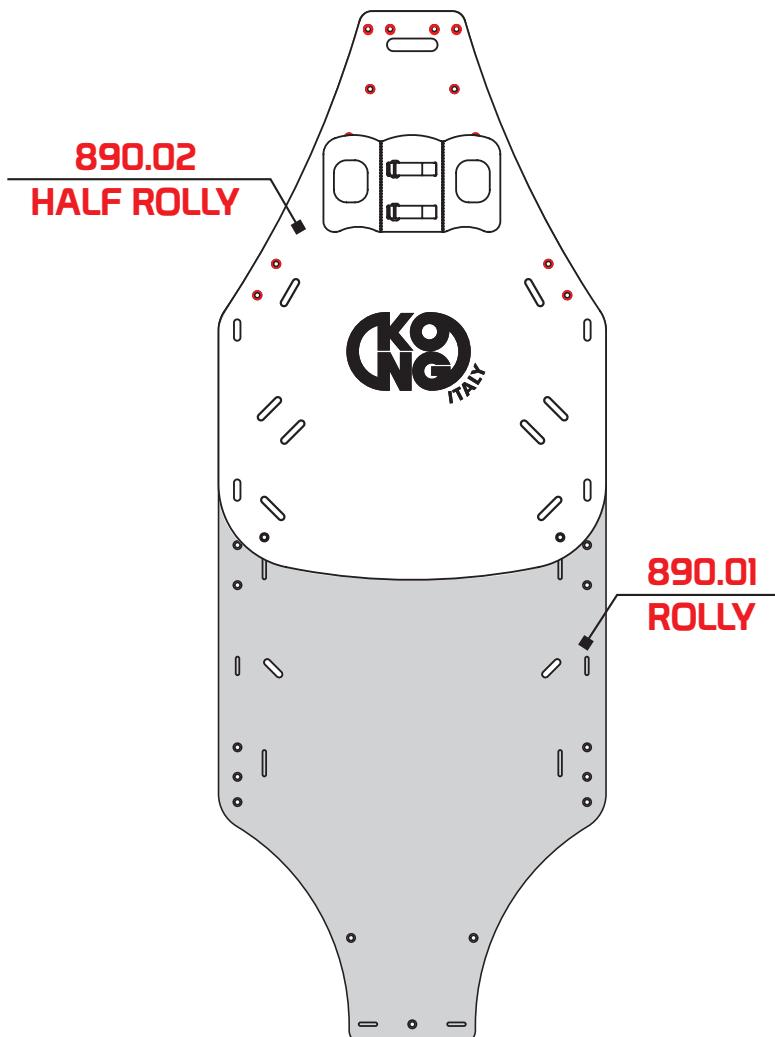
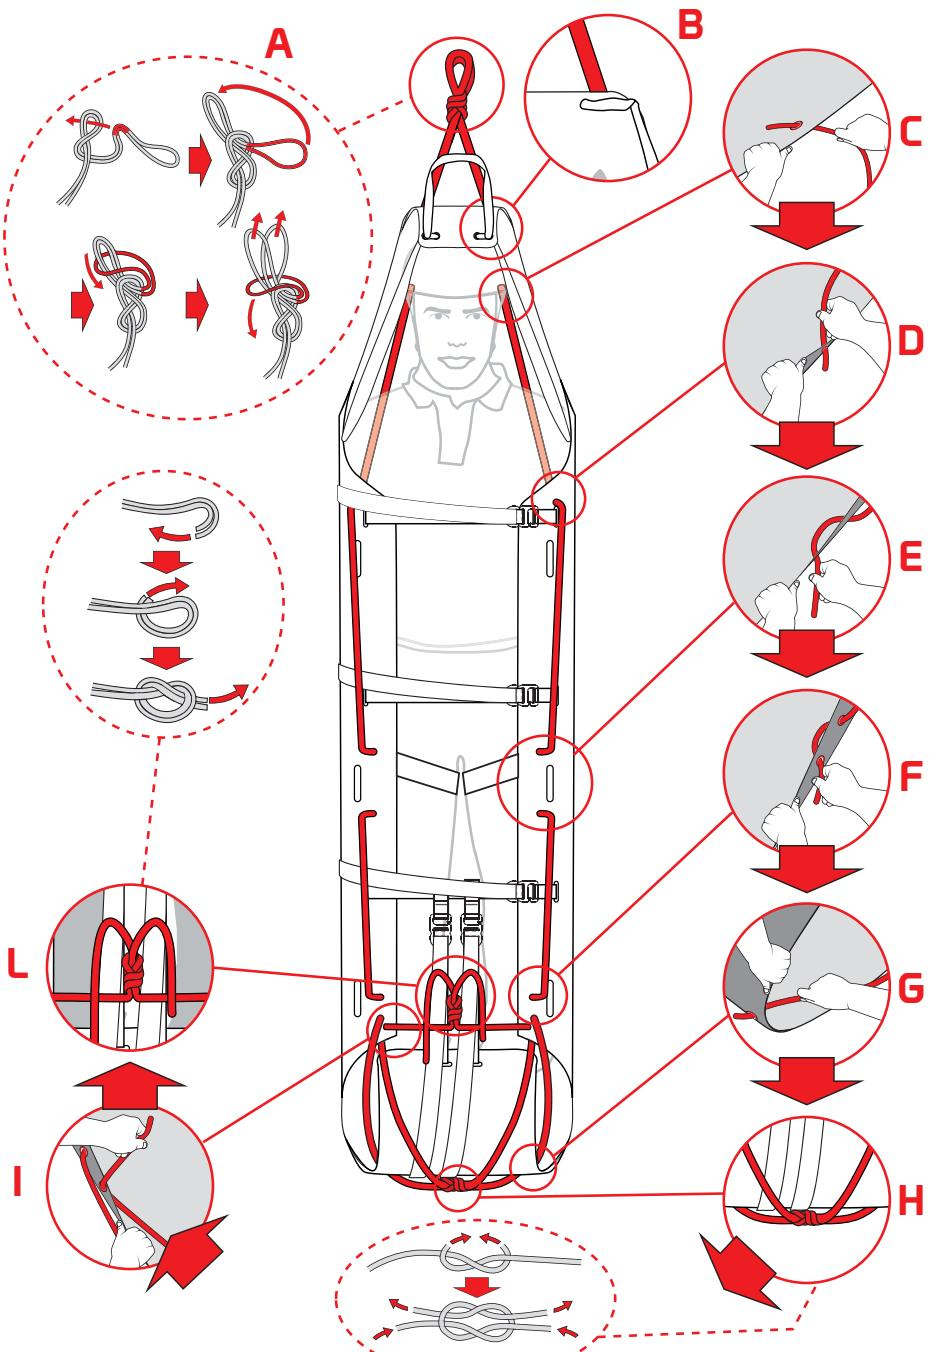

Fig.18
Fig.19
- Position the “HALF ROLLY” rescue sheet on top, with the immobilised patient, and make sure that the holes are aligned (fig. 18), and insert the rope (M) - fig. 19.